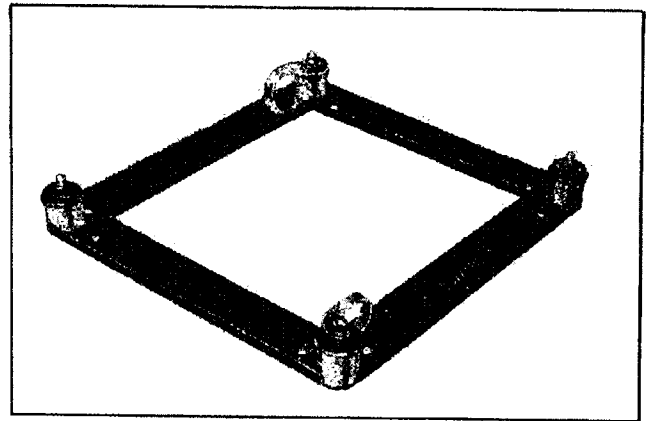

Figure 3. Receiver Mount MT-237/ARC-3
(2) RECEIVER.—Align the four holes in the base of the Receiver R-77/ARC-3, with the four studs on Mount MT-237/ARC-3. (See fig. 3.) Each side of the Receiver base contains two snap-slide fasteners which are connected by a rod and can be locked from either end. Lower the Receiver onto the Mount and snap the snap slides.
(3) DYNAMOTORS.